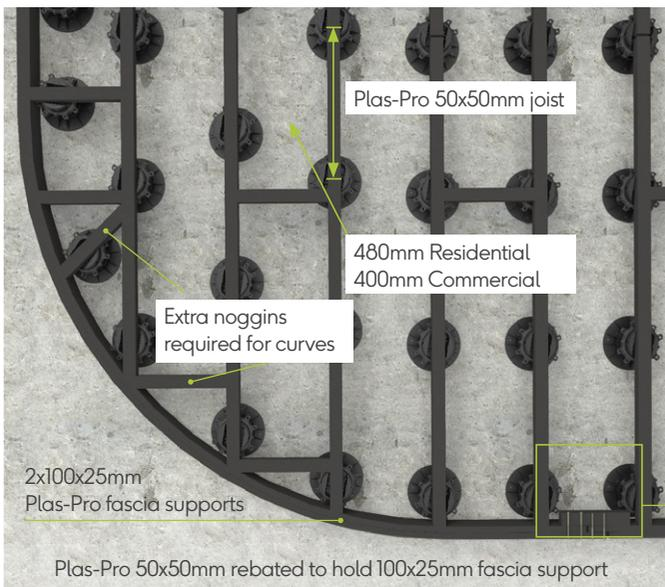

Fig. 33 - Brick bond noggins
- a. Noggins should be set to a brick bond pattern at 1200mm centres \pm 100mm. (see page 33) fig. 33
- c. Curved frames will require extra noggins: see fig. 33